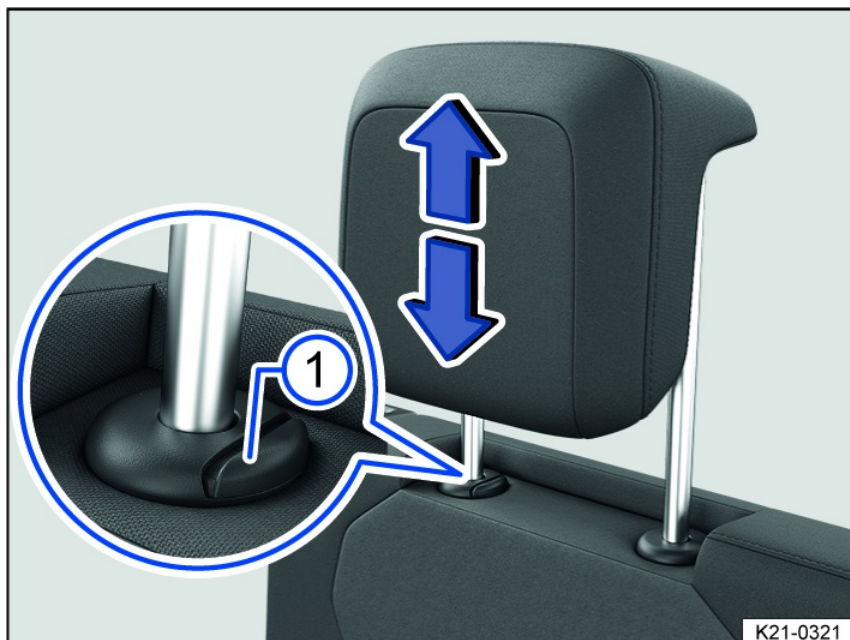

Fig. 84 General example: adjusting the head restraint on the third-row seats.
1. Push the head restraint upward in the direction of the arrow or slide it downward while pressing the fig. 84 button.